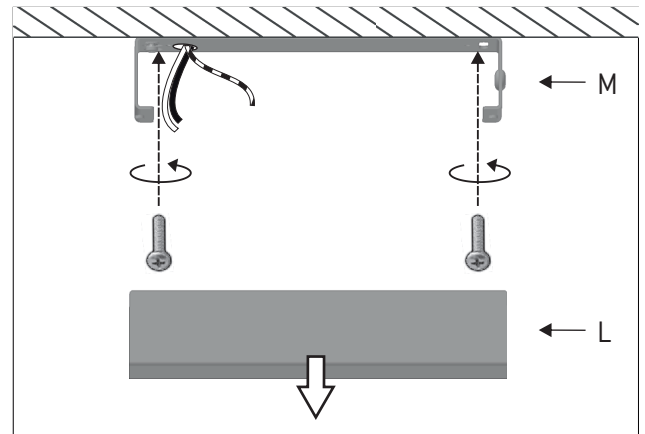

Figure 7
7 - Pull the canopy (L) down with force to remove the mounting bracket (M). Insert the main electrical cable through the mounting bracket and fix it to the ceiling. Figure 7.